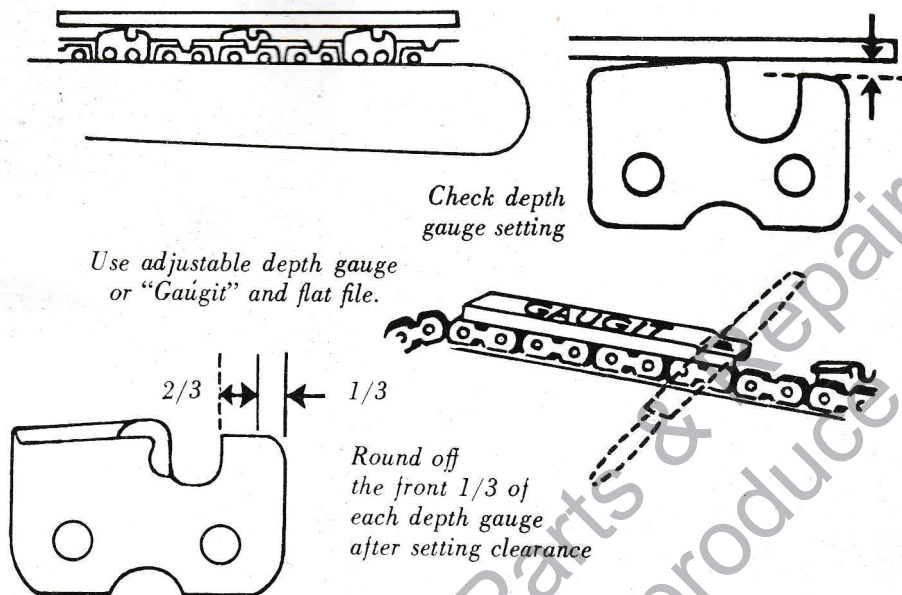

Figure 9 — Filing Depth Gauges
## (2) SET DEPTH GAUGE CLEARANCE (See Figure 9)
(c) After filing gauges, be sure to round off the front parts of the gauges uniformly as shown in figure 9. This facilitates smooth entry into the cut.